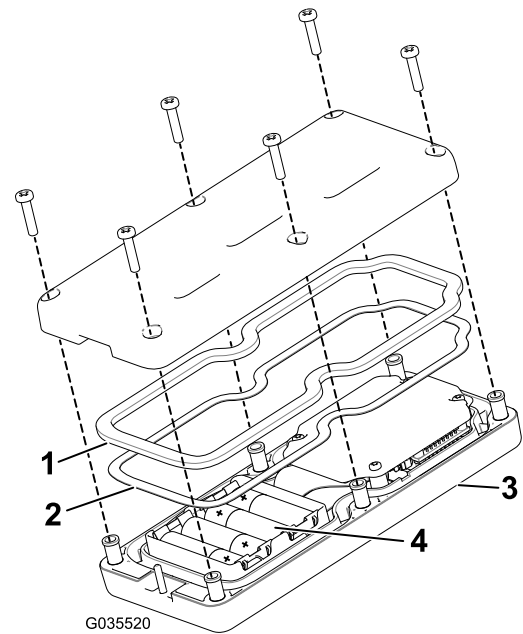

Figure 31
3. Remove the 6 screws from the back of the remote and remove the cover (Figure 31).
5. Plug each fresh battery into a terminal cradle observing proper polarity. (If the batteries are improperly installed, the unit will not be damaged, but it will fail to operate.) The cradle is embossed with polarity markings for each terminal (Figure 31).
6. If you accidentally removed the rubber seal and the steel gasket, replace them carefully into the channel in the handheld remote (Figure 31).
7. Replace the cover and secure it with the 6 screws removed previously (Figure 31) and torque them to 1.5 to 1.7 N-m (13 to 15 in-lb).